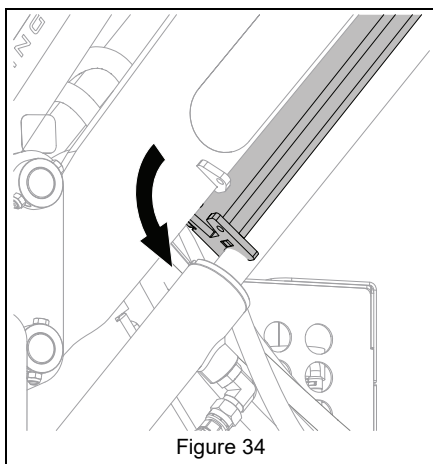

Figure 34
4. Slowly lower lift arm support into position against cylinder shaft, taking care not to damage cylinder shaft. See Figure 34.